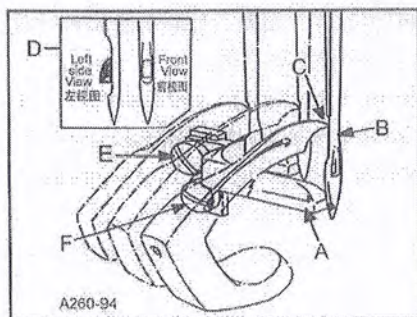
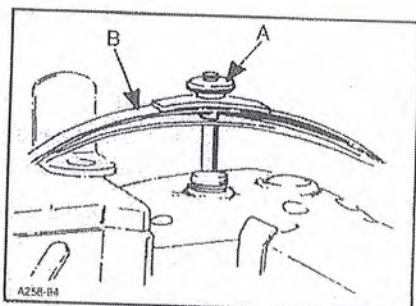
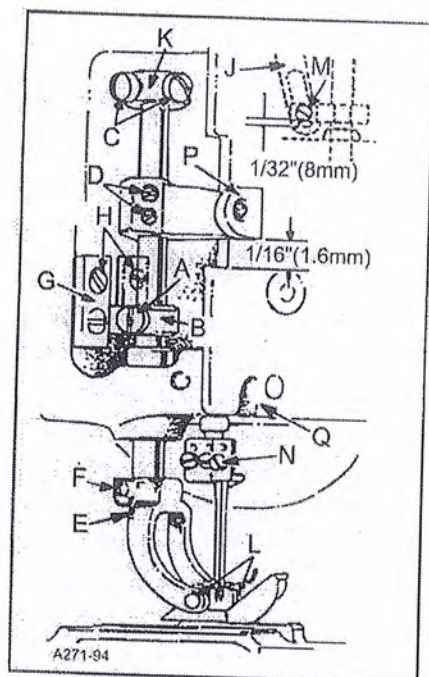

FIG.13
FIG. 14
FIG. 15
Set the rear needle guard(A, Fig. 13)horizontally so that it barely contacts needles(B)when at its extreme forward position.If adjustment is necessary loosen screw(E)and move guard front to back as required.It should be set vertically as low as possible, yet have its guarding surface in contact with the needles until the points of the loopers(C),moving to the right,are even with the right side of the needles. If adjustment is necessary loosen screw(F)and move guard and holder up or down as required.
NOTE:When installing the needle it should be parallel with the eye in line of feed.If adjustment is necessary, loosen screw(N, Fig. 15)in needle head and rotate needle to attain adjustment(D, Fig. 13).
Remove presser bar leaf spring(B, Fig. 14) and nut(B). Loosen screw(A, Fig. 15) on presser bar guide(B). Loosen screws(C) in upper collar and screws(D) in needle lever thread pull-off lever. Slide Presser bar upward high enough to slip on presser foot yoke(E) with foot attached and tighten screw(F) on flat of presser bar. Position foot so that the needle holes in the foot line up with the holes in the throat plate. Tighten screw(A).
Presser foot guide plates(G, Fig. 15) should be set so that entire presser foot and bar assembly has free movement up and down with no left to right movement.
With foot properly aligned on throat plate and presser bar guide(B, Fig. 15) securely fastened to presser bar, adjust both guide plates(G) to obtain above setting. Tighten four screws(H).
Reinstall presser bar spring(B, Fig. 14) and knob(A), with presser foot resting on throat plate.
The presser foot should be adjusted to be $1/8$ " (3.17mm) above the throat plate before the feed roller mechanism begins to rise. Loosen screw(A, Fig. 15) in presser bar lifter and guide (B), raise or lower guide as required to attain the specified point at which the feed roller begins to rise. Retighten screw(A) and maintain needle settings.
NOTE : There should be a minimum 1/32"(0.8mm) clearance between screw (M, Fig. 15) and the bottom of the slot in link(J).
Regulate the pressure on the presser foot by turning the presser spring regulating knob(A, Fig. 14) located on top of pressure foot spring (B).
To remove just the presser foot, remove screws (L, Fig. 15) and replace foot, retighten screws (L).